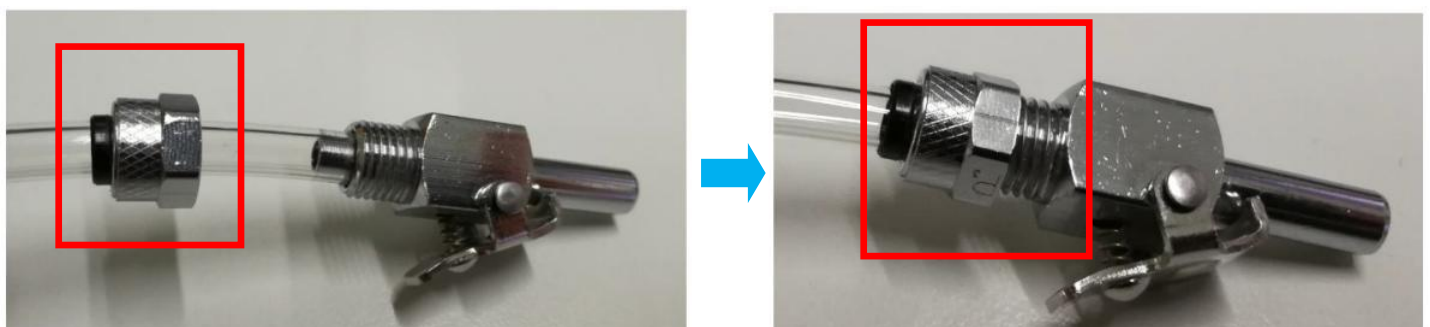

Figure 19
20. Gently slide the nut through tubing. Tighten the nut. May refer to Figure 19.